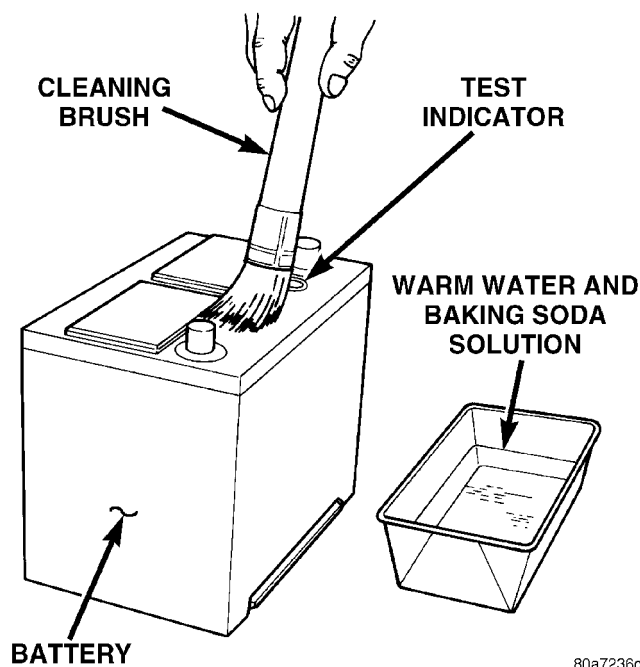

Fig. 15 Cleaning Battery
(1) Clean top of battery with a solution of warm water and baking soda.
(2) Apply soda solution with a bristle brush and allow to soak until acid deposits loosen (Fig. 15).